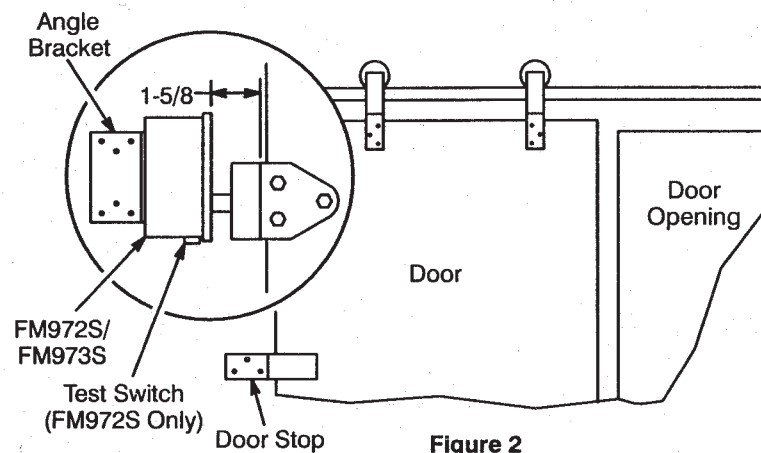
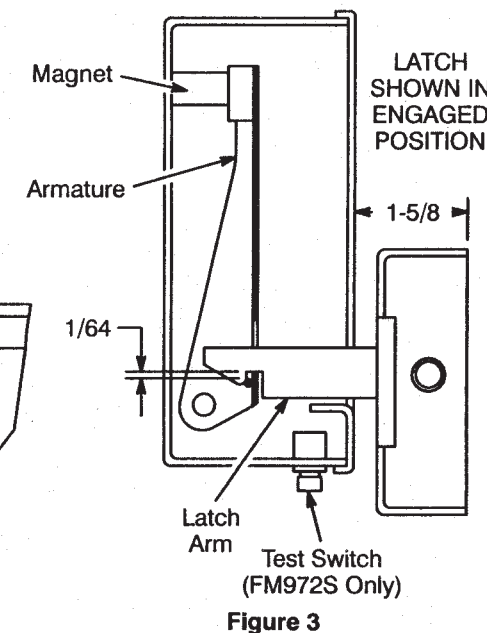

Figure 2
Figure 3
- a. Place door bracket with tapped holes on back side of door. Place flat door bracket on front of door. Mark and drill three (3) 5/16" dia. holes through door for three (3) 5/16-24 x 2-3/4" hex head machine screws. Do not mount brackets to door.
- b. Attach latch unit to brackets using two (2) 5/16-24 x 1/2" hex head machine screws and flat washers (through latch unit). DO NOT tighten screws.
- c. Secure assembled latch unit and door brackets to door using three (3) 5/16-24 x 2-3/4" hex head machine screws and lockwashers. Tighten bracket mounting screws securely.
4. Attach angle bracket to main unit using four (4) 1/4-28 x 1/2" hex head machine screws and lockwashers. DO NOT tighten screws. See Figure 2.
- a. Align main unit so latch arm passes through the center of the opening in the armature. Unit must be mounted vertically. (Test switch on FM972S unit must be towards floor.) Tighten four (4) 1/4-28 x 1/2" hex head machine screws on angle bracket and main unit.
- c. Hold unit in this position and mark location for two (2) mounting screws. Drill holes and secure bracket.
- Use four (4) #20 x 2" lag screws and lockwashers for installation into wood backing.
- Use two (2) #20 x 2" lag screws, lockwashers and rawl plugs for installation into masonry walls. Drill 3/8" diameter holes for rawl plugs provided.
- Use two (2) 5/16-18 x 3/4" machine screws and lockwashers for metal mounting. Drill and tap 5/16-18 holes.
- d. Align latch unit for 1/64" vertical clearance between latch arm and catch on armature. See Figure 3.